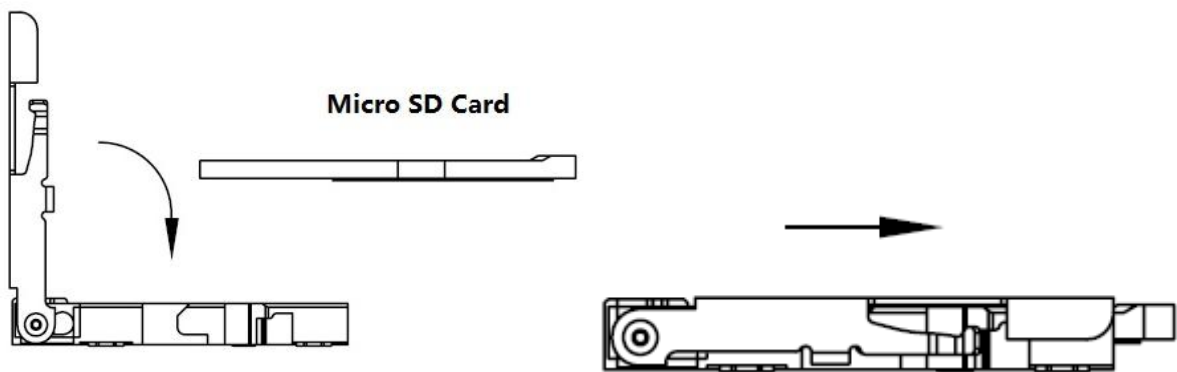

Figure 2-4 Micro SD Card installation illustration 2
Step 3 According to the direction in figure 2-4, close the Micro SD card slot and keep it locked.